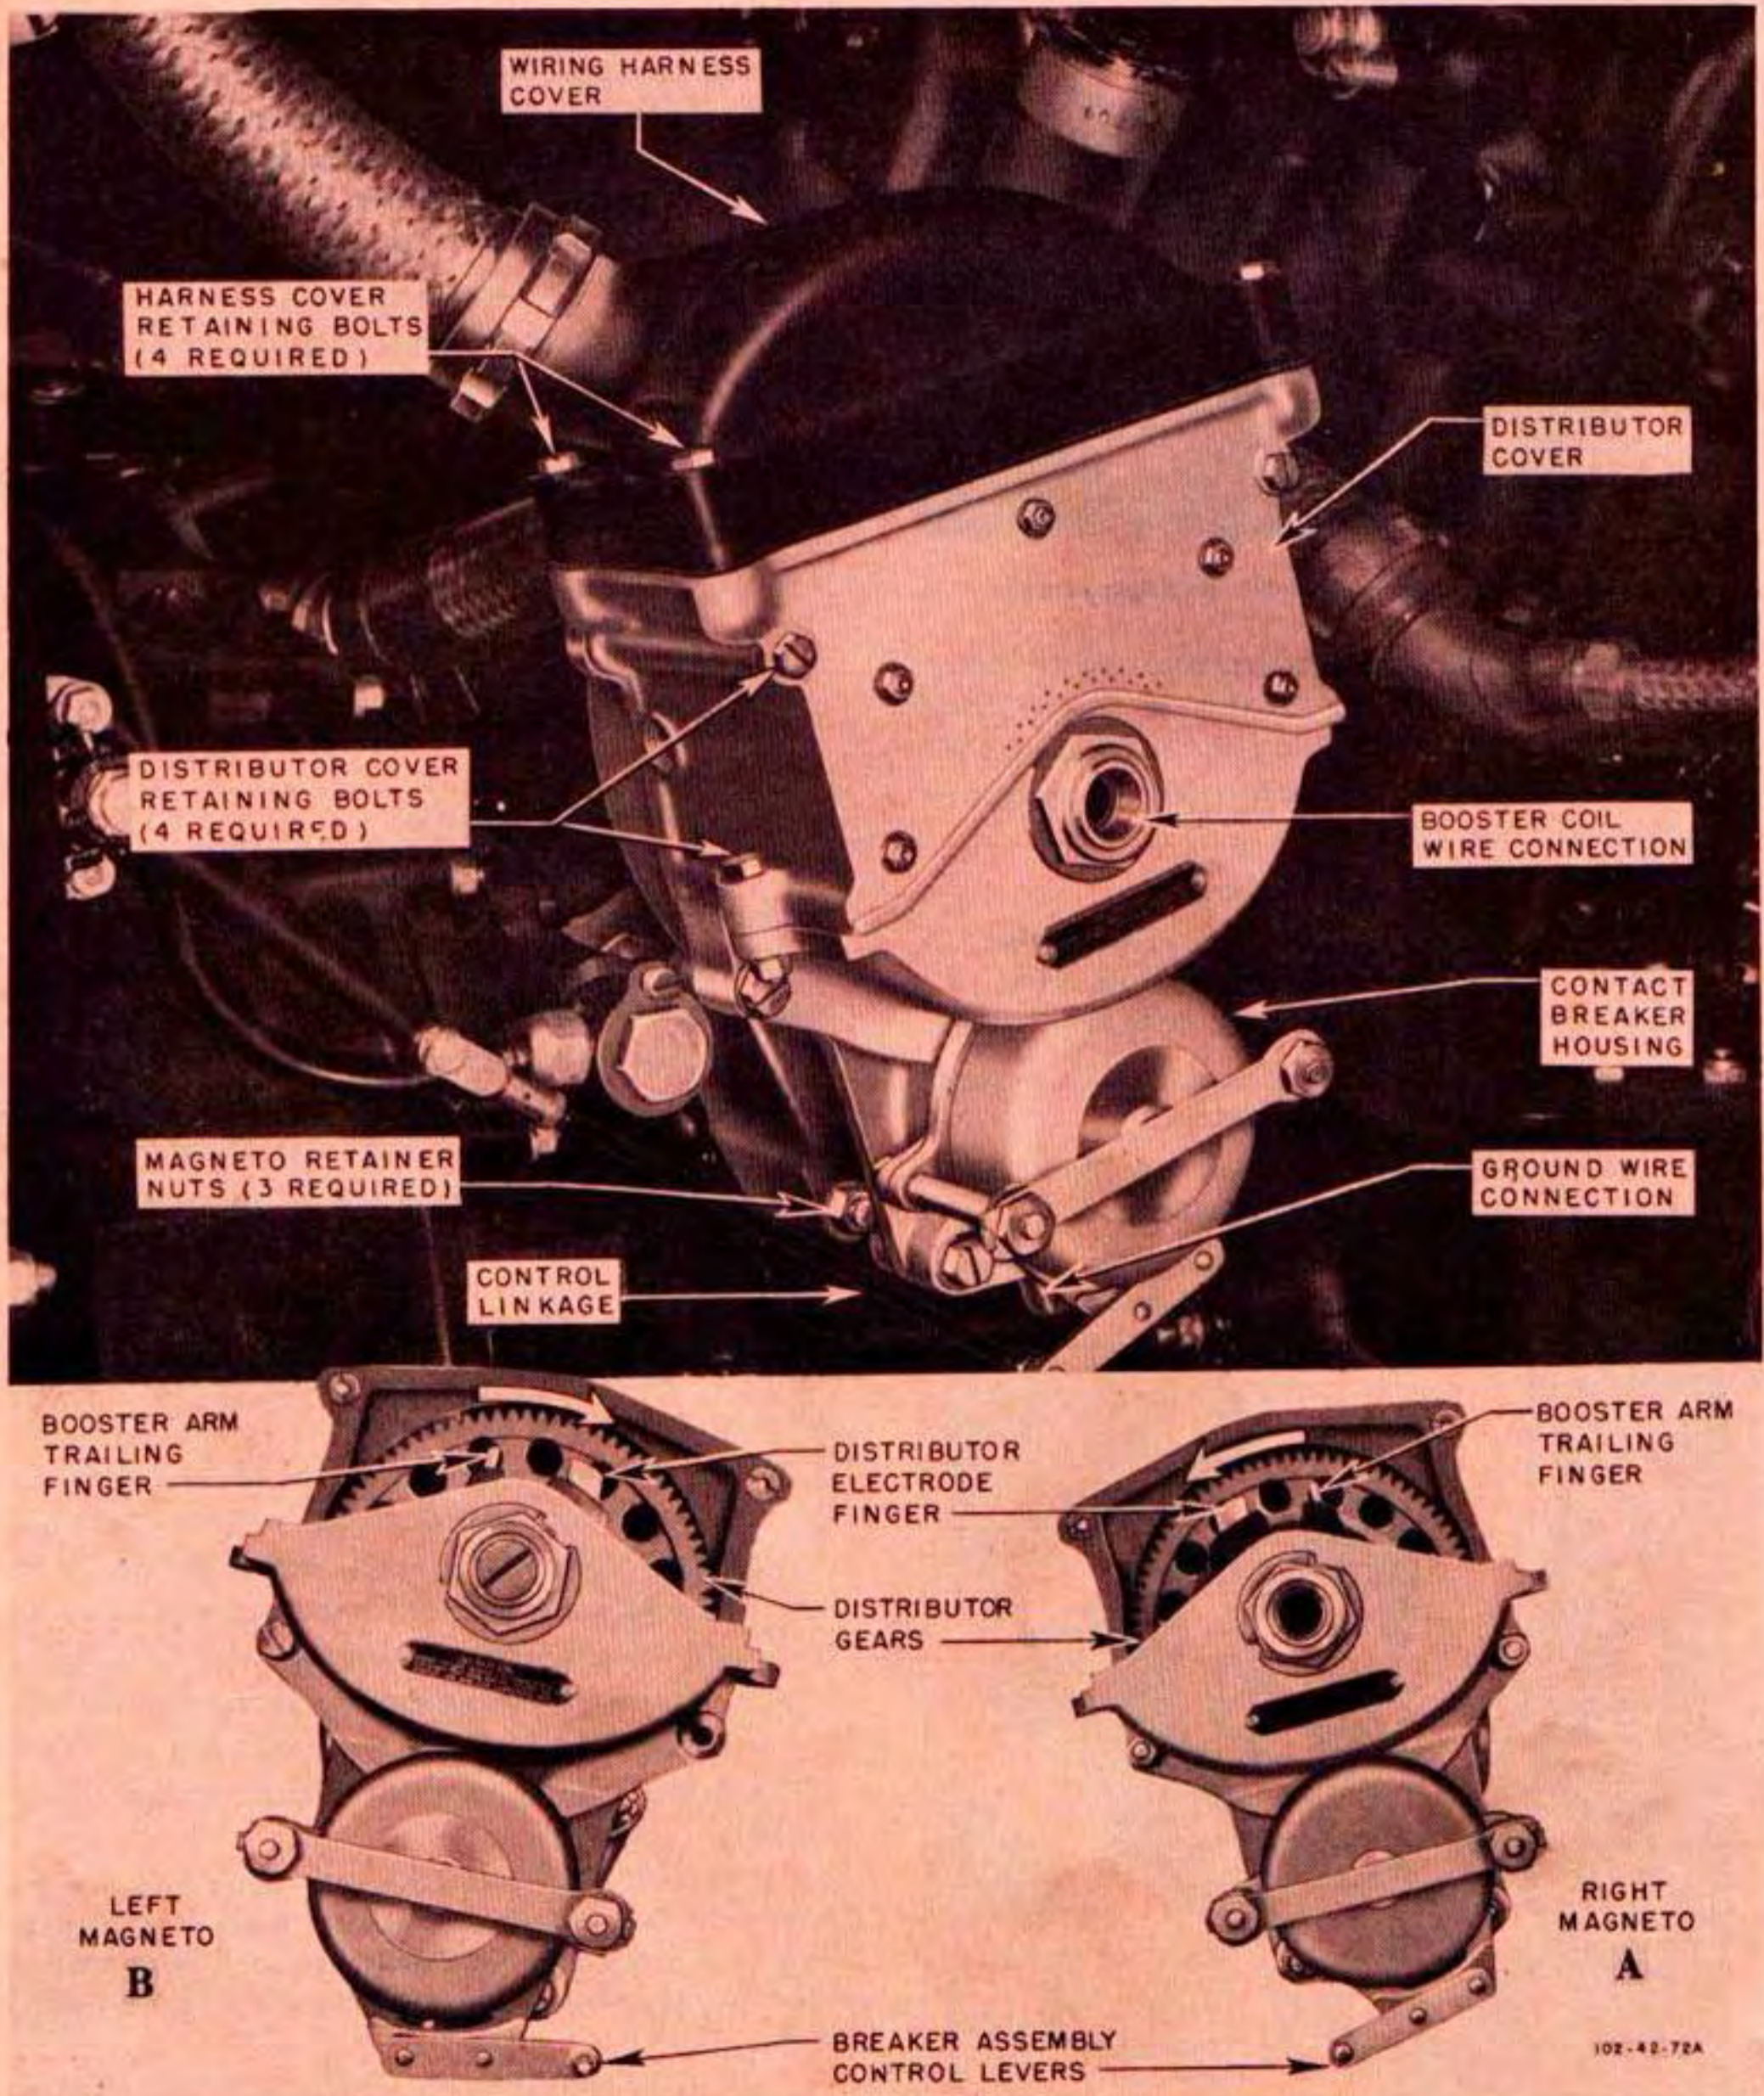

Figure 180—C6 Magnetos
(See figure 180.)
f. With contact breaker housing in the fully advanced position, turn rotor slowly in normal direction of rotation until continuity light goes out. (See figure 180 for normal rotation of "A" and "B" magnetos.) When the light goes out, the contact breaker points are just opening and the magneto is timed to fire the A6 cylinder.
f. When the proper timing has been made and checked, secure magneto (*figure 180*) as follows: